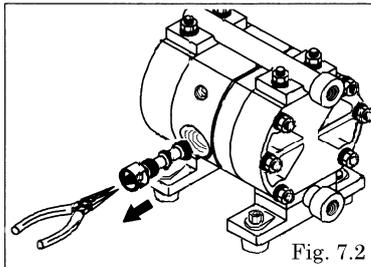

Fig. 7.2
- Draw out the C-spool valve assembly using the pliers, and remove the seal ring from the C-spool valve assembly. [Fig.7.2]